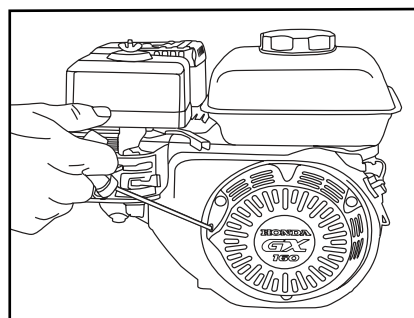

Fig 11. Starter Grip
5. Pull the starter grip (Figure 11) lightly until you feel resistance, then pull briskly. The drum should begin to rotate at this time.